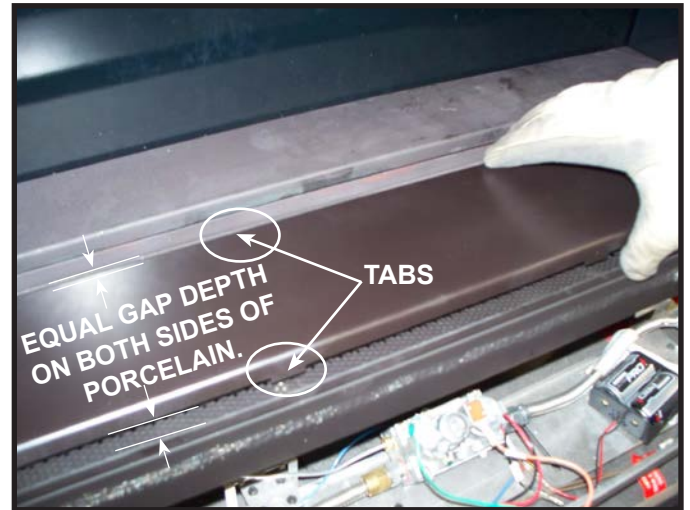

Figure 11. Placing Porcelain Base Pieces.
4. Place rear inside porcelain base piece. Place into bottom of fireplace with tabs away from the burner. Center from front to back. There will be a gap between the front edge of the base piece and the burner area and also a gap between the back of the porcelain piece and the rear porcelain panel. These two gaps should be equal. See Figure 11.
5. Install front inside porcelain base piece. Position into bottom of fireplace with tabs facing the outside edge of the firebox. Center from front to back. There will be a gap between the front edge of the base piece and the front of the firebox and also a gap between the back of the porcelain piece and the burner rail. These two gaps should be equal. See Figure 11.